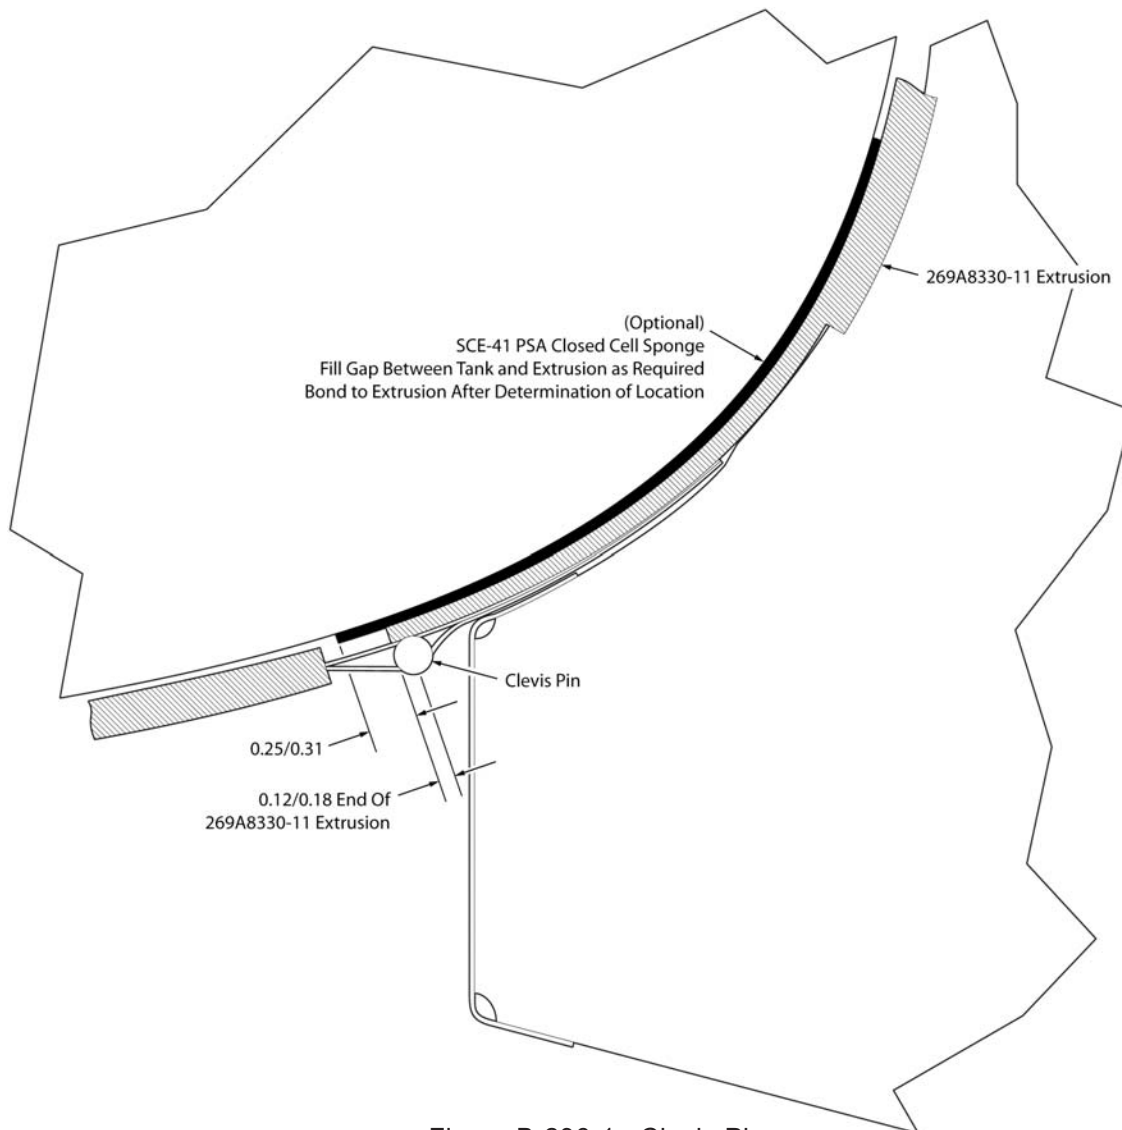

Figure B-296-1. Clevis Pin
- a. Using a bright light and mirror, examine bottom of fuel tank and check that 269A8330-11 rubber extrusion is properly positioned between tank and retention strap clevis pin as shown in Figure B-296-1. Verify there is proper clearance between the clevis pin head, washers and fuel tank. Clearance needs to be verified after the fuel tank is fueled.
If rubber extrusion is installed as shown in Figure B-296-1, proper clearances have been established and there is no evidence of contact or chaffing, no further action is required. Record compliance with this Service Bulletin in the aircraft records.
- d. Trial fit a new length of 269A8330-11 extrusion on the seat beam and trim to .12 to .18 inch past the center line of the clevis pin position as shown in Figure B-296-1. Using waterproof cement, bond extrusion to vertical beam and portion of stainless steel strap attached to vertical beam.
- f. Check for proper clearance of clevis pin head. Verify clearance after fuel tank has been fueled. If there is not adequate clearance, repeat Step b. above and add additional layers of SCE-41 PSA Closed Cell Sponge, as required, as shown in Figure B-296-1.